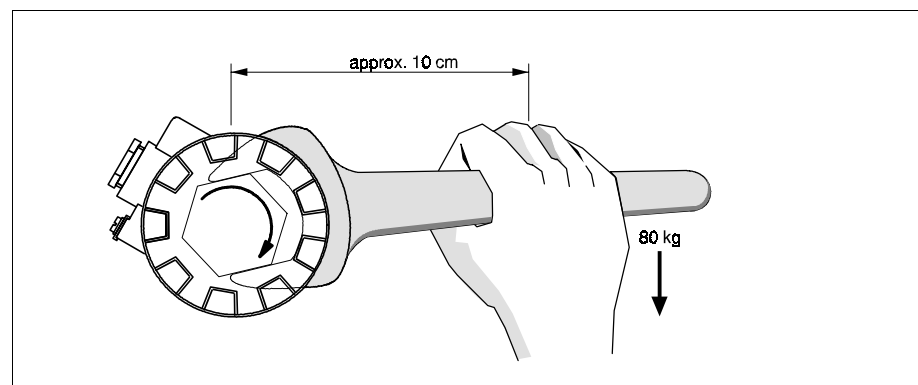

Fig. 8
- A torque of 80 to 100 Nm is sufficient for a reliable seal up to 6 bar; see Fig. 8.